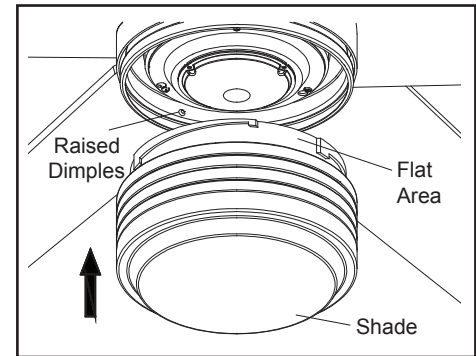

Figure 17
5. Place the shade into the light kit pan, aligning the three flat areas on the top of the shade with the three raised dimples in the light kit pan. Turn the shade clockwise until it stops. (Figure 17)